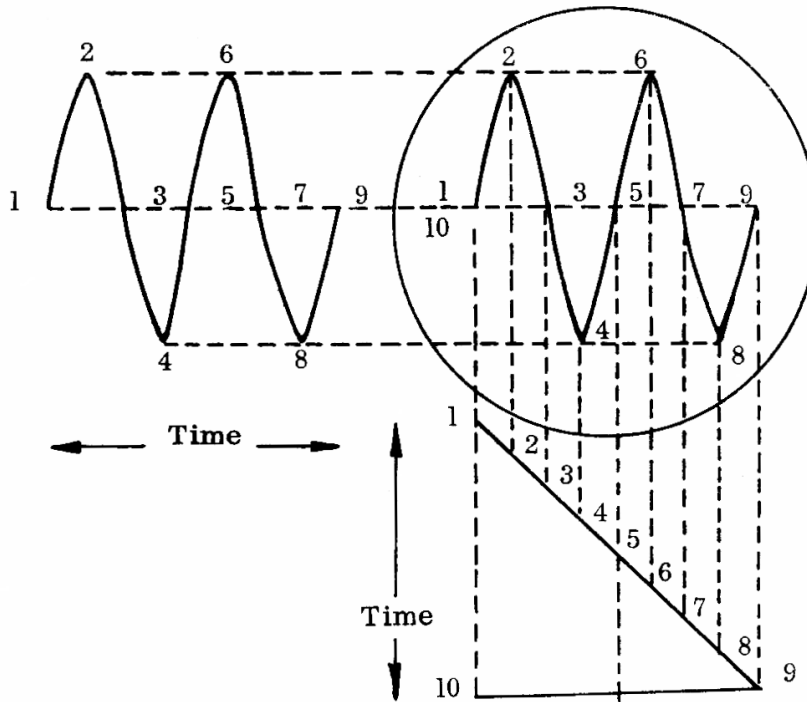

Fig. 11 Vertical Input Frequency is twice that of Horizontal Sweep Frequency
- 5.4.2 If the sine wave input is double in frequency (or if the frequency of the sawtooth is cut in half) the resulting image will consist of two cycles. Figure 11.